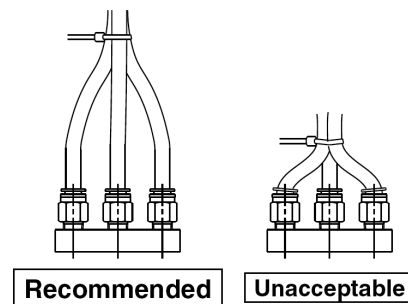

Figure 7
- Do not apply external force to the fitting when binding tubes with bands, etc. see Figure 7.